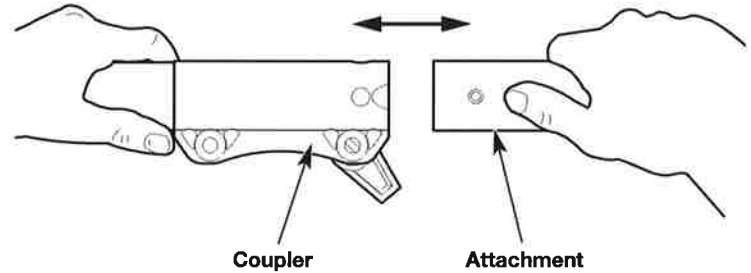
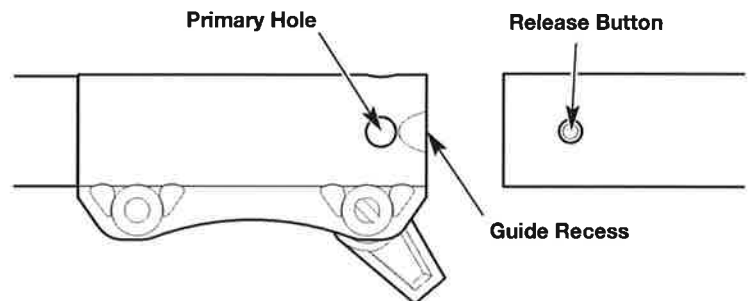

Fig. 5
Fig. 6
4. Align the release button with the guide recess (Fig. 6).
5. Push the attachment straight into the coupler (Fig. 5) until the release button snaps firmly into the primary hole (Fig. 6).
3. Press and hold the release button (Fig. 6).
4. Pull the attachment straight out of the coupler (Fig. 5).